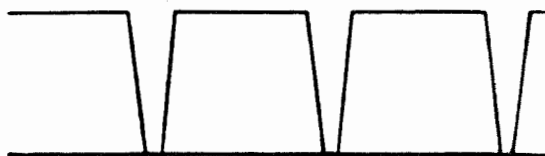

Figure 7-1. Oscilloscope Patterns for Observing Signal Bias
(8) Adjust the input potentiometer of the receiving tone keyer (demodulator) until the corrected zero reading, step (6), is obtained.
(9) If difficulty is encountered in obtaining the corrected zero reading, or if a check on the signals arriving from the sending tone keyer (modulator) is desired, these signals should be observed on a cathode-ray oscilloscope. The relative lengths of tone and no-tone intervals can be observed by operating the oscilloscope at a speed such that a tone pulse appears on the scope in each no-tone interval. If there are filters in the tone channel between the sending tone keyer (modulator) and the oscilloscope, the tone pulses will not have sharp transitions between the tone and no-tone conditions. In this case the oscilloscope should show an overlap of the tone pulse envelopes such that the front of one pulse intersects the rear of another pulse at a point halfway between zero and the maximum pulse amplitude. Typical signal patterns at the input to the tone keyer (demodulator) for biased and unbiased signals are shown at the left of figure 7-1.
(10) If the incoming signals to the tone keyer (demodulator) are biased, a request should be sent to the communication office to remove any marking or spacing bias by adjusting the sending tone keyer (modulator). The signals at the communication office should be observed on a cathode-ray oscilloscope. In this case the tone signals may not be "rounded off" by filters; and if the keyed tone pulses are not distorted, the tone-on interval will just occupy completely the no-tone interval, and a continuous trace (except for distortions occurring at the transition points) will be observed on the oscilloscope. If a condition of overlapping traces is observed near the transition points, the tone-on condition is too long or is "biased to marking." If there is a space near the transition points where no trace except the sweep circuit line appears, the signals are "biased to spacing."
(11) Having made sure that the dots as sent from the communication office are unbiased, adjust the input potentiometer of the receiving tone keyer (demodulator) until the corrected zero reading of step (6) is obtained. As an overall check, observe the signals in the output circuit of the receiving tone keyer (demodulator). Typical signal patterns for the output circuit are also shown at the right of figure 7-1. When the signals appear satisfactory, have the source of dots disconnected from the channel.
(12) Connect the tone keyer (demodulator) output to the frequency shift keyer signal input circuit and adjust the tone keyer (demodulator) output until a voltmeter reading of 30 to 40 volts is obtained.